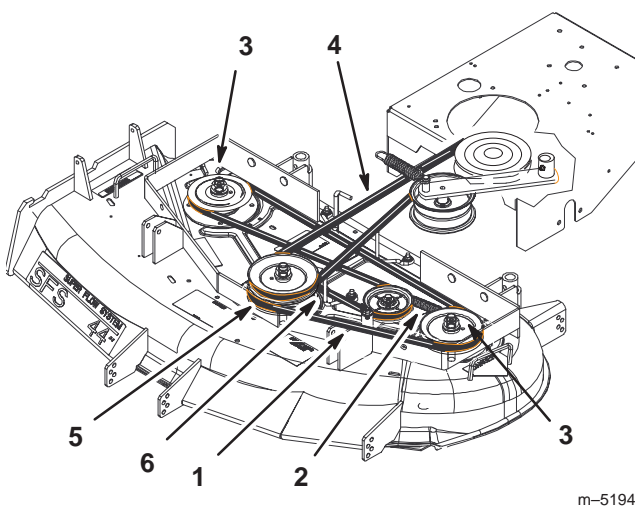

Figure 62
5. Disconnect the idler arm spring to relieve tension on the idler arm and idler pulley, then remove the worn deck belt (Fig. 62).
6. Install the new deck belt around the two outside spindle pulleys, the idler pulley, and in the lower groove of the center spindle pulley (Fig. 62).
7. Connect the idler arm spring (Fig. 62).
9. Adjust deck belt guide an 1/8 in. (3 mm) from belt (Fig. 62).